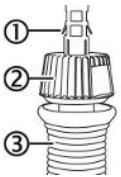

Fig. 8: Soldering tip proper mounting
- f) Fig. 8 left: Insert the plug of the soldering iron [1] into the soldering iron socket at the soldering station [2]. When doing so, align the plug anti-rotation device with the lower recess in the socket, see arrow.
- g) Fig. 8 right: Align the recess of the union nut on the soldering iron plug [3] upwards. Then press the union nut [4] onto the plug and lock it by turning it 90 degree clockwise.